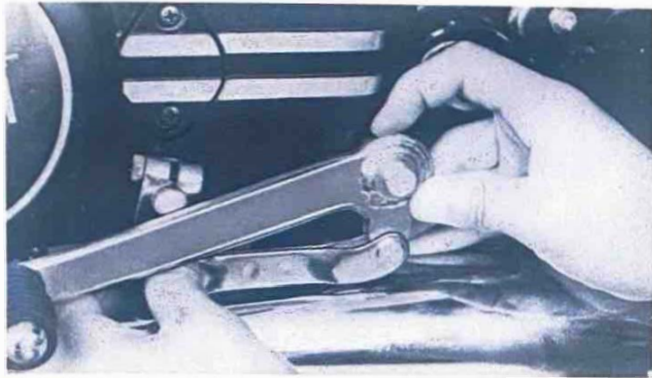

Fig. 32
18. Install the change arm to the change arm pivot shaft and change shaft link lever to the change shaft. Then install the washer and the circlip to the change arm pivot shaft, and tighten the pinch bolt. (Figs. 32 ~ 34)